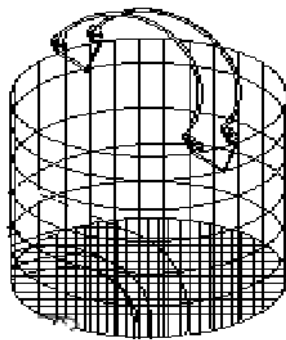

Figure 11
- C. Place the items to be sterilized and the sterilization indicator strips into the basket as required as Figure 11.